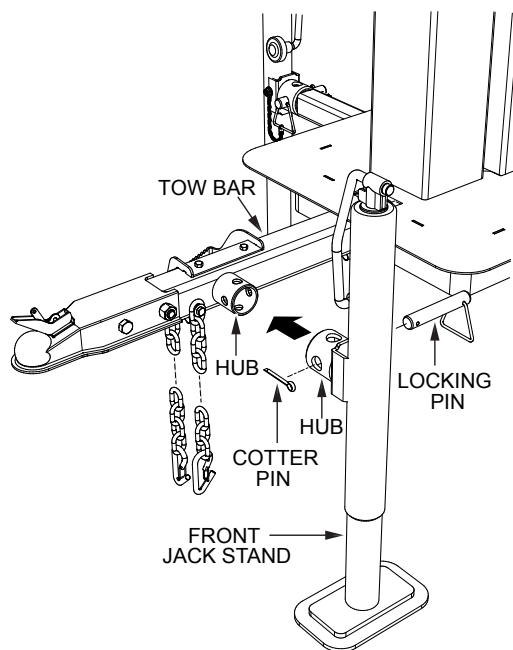

Figure 10. Front Jack Stand Install
1. Place **front jack stand** onto tow bar jack stand support hub as shown in Figure 10.